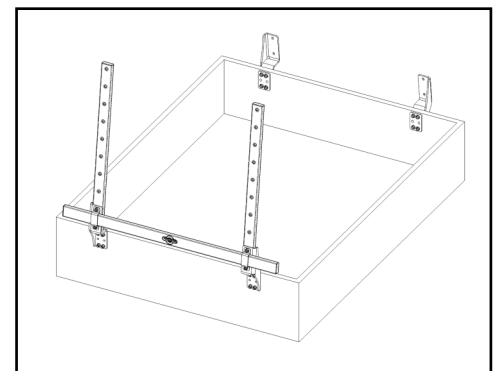

Fig. 3
- See fig. 3. Repeat step 2 for the second vertical tube.